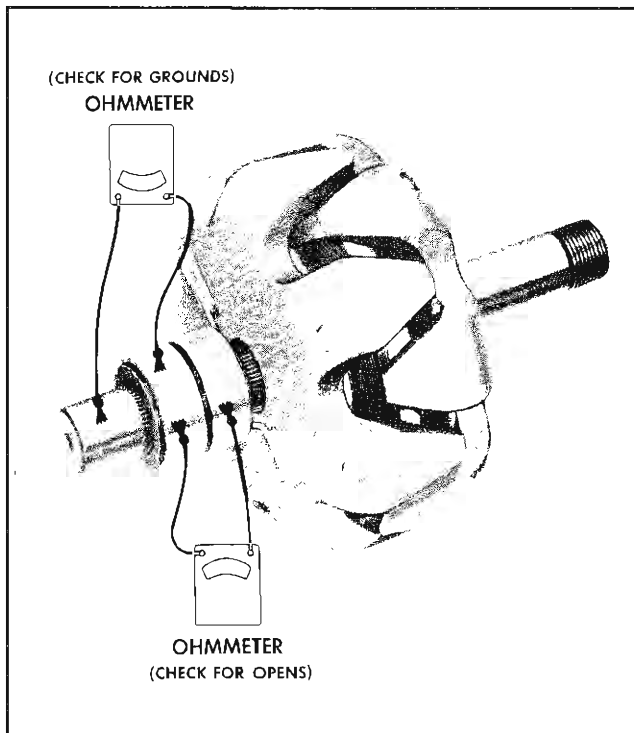

Fig. 11-14 Checking Rotor
1. To check for grounds, connect a 110 volt test lamp or an ohmmeter from either slip ring to the rotor shaft, or to the rotor poles. If the lamp lights or the ohmmeter reading is low, the field winding is grounded (Fig. 11-14).
2. To check for opens, connect the test lamp or ohmmeter to each slip ring. If the lamp fails to light, or if the ohmmeter reading is high (infinite), the winding is open (Fig. 11-14).